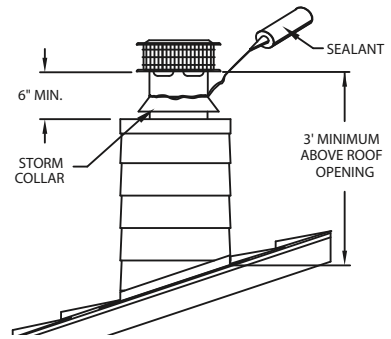

Figure 16
12. Finish Top: Apply a non-hardening waterproof sealant around the chimney at the point where the Storm Collar will meet the chimney just above the Flashing (**Fig. 16**). Slide the Storm Collar down over the chimney to the top of the Flashing. The Storm Collar must be installed 1-inch off the Flashing to provide proper ventilation (**Fig. 16**). Tighten the bolts of the Storm Collar and seal the Storm Collar against the Chimney with sealant. Attach the Chimney Cap onto the top of the chimney by setting the female end of the Cap onto the male end of the last Chimney Section and turning the . Do not push down from the top portion of the cap as this may damage the cap. Push from the lower section of the Cap if needed. When installed, the bottom of the Chimney Cap must be at least 6 inches above the Chase Top Flashing (**Fig. 16**). The Chimney Cap can be removed for chimney cleaning as described in the Chimney Maintenance section of the instructions.